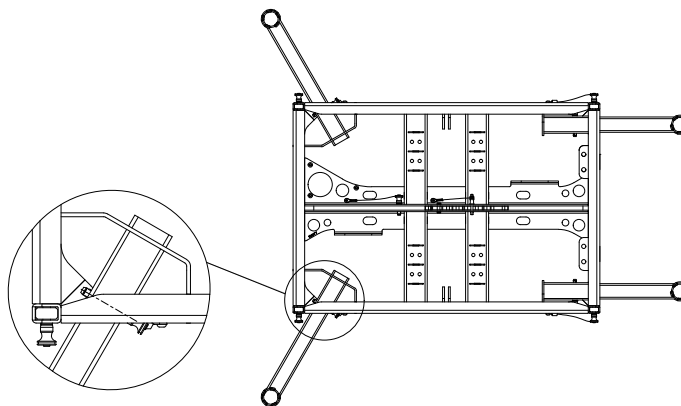

Figure 4.4.3 – Front-mounting the VERA ORF900 outrigger on the VERARF600
3. Always insert all quick-lock pins completely through all square tubes (see figure 4.4.3 left).